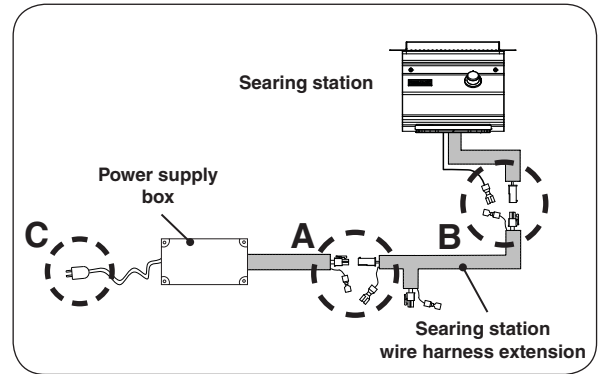

Fig. 18-1 Connect searing station to power supply
3. Connect the power supply box connectors to the searing station wire harness extension, as shown in Fig. 18-1, **A** (molex and ground wire connections).
4. Connect the searing station wire harness extension to the searing station, as shown in Fig. 18-1, **B** (molex and ground wire connections).
5. Connect the cord coming from the power supply box to a **120VAC (15 AMP minimum) GFCI GROUNDED 3-wire receptacle**. See Fig. 18-1, **C**, and 18-2. The GFCI receptacle must be a WEATHER-PROOF IN-USE COVERED RECEPTACLE.